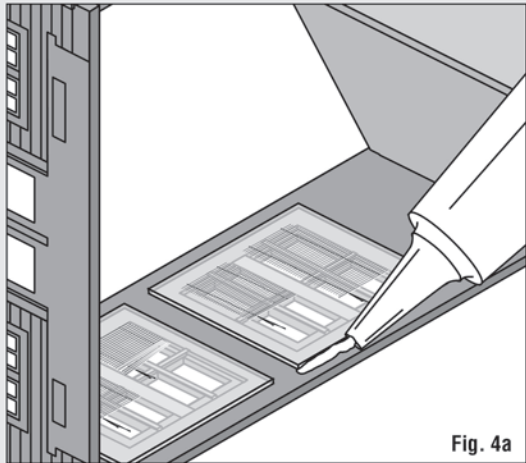

Fig. 4a
- Determine appropriate piece of Window Material for each window opening on inside of Building. Insert into recess of window openings on inside of Building. Dab a tiny amount of glue carefully around edges (**Fig. 4a**).